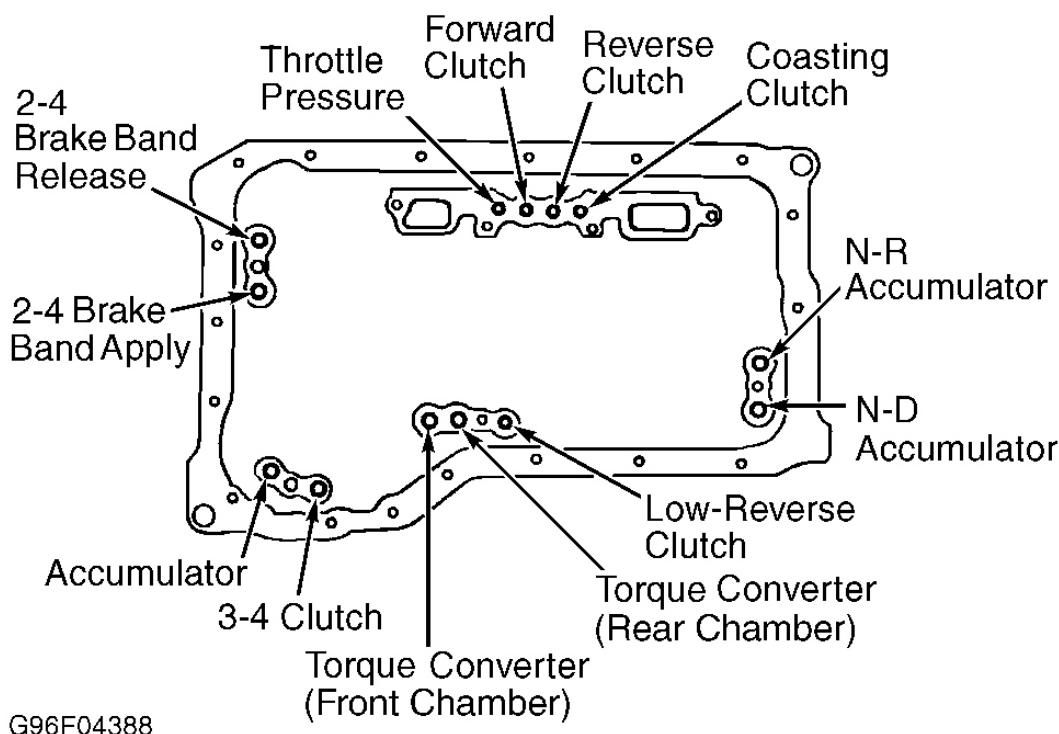

Fig. 17: Identifying Transaxle Case-To-Valve Body Oil Passages
2. To prevent damage to low/reverse clutch piston, face transaxle case opening down, over soft surface. Apply 57 psi (4 kg/cm²) of compressed air maximum to low/reverse clutch fluid passage, and remove low/reverse piston. See **Fig. 17**. Remove piston inner and outer seals.
4. Retaining rings are available in the following thicknesses: .079" (2.00 mm), .087" (2.20 mm), .094" (2.40 mm), .102" (2.60 mm), .110" (2.80 mm) and .118" (3.00 mm). Carefully check clutch operation by applying air pressure through low/reverse clutch fluid passage. See **Fig. 17**.